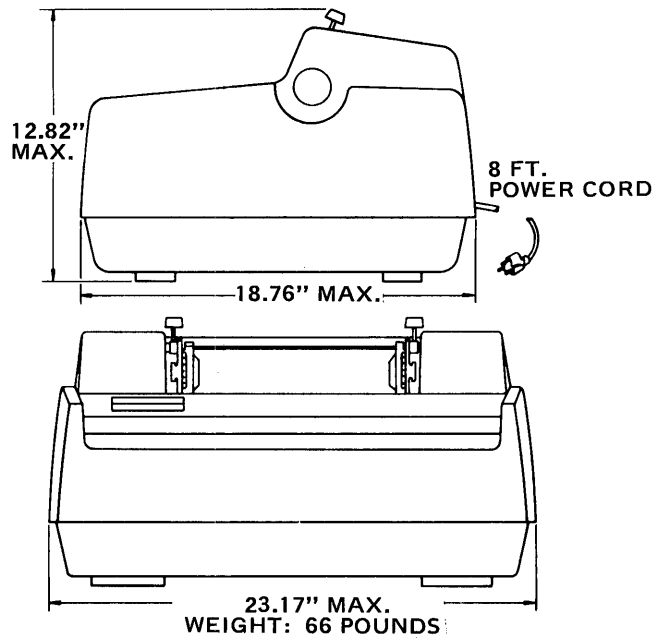

Figure 2-1. PRINTER DIMENSIONS
**2.1 SITE PREPARATION (Figure 2-1)**
A line drawing of the printer dimensions is shown in Figure 2-1.